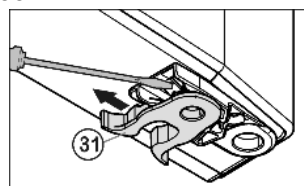

Fig. 10
- ▶ Transfer the spring clamp *Fig. 10 (31)*: Depress the latch nose and pull the spring clamp off over it.